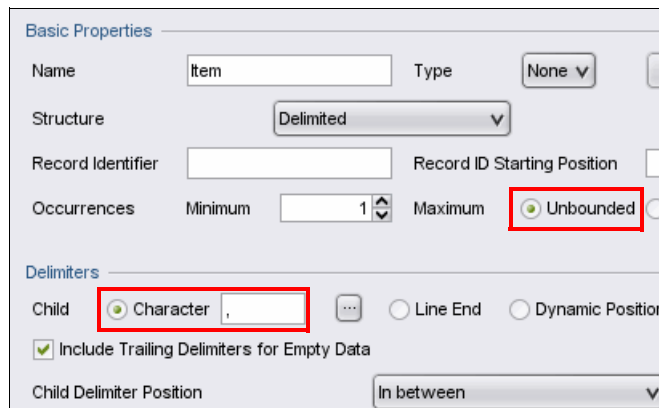

Figure 12-24 Settings for item
- a. In the New Record window, name the new child Item, and click **OK**. Complete the configuration, as shown in Figure 12-24.